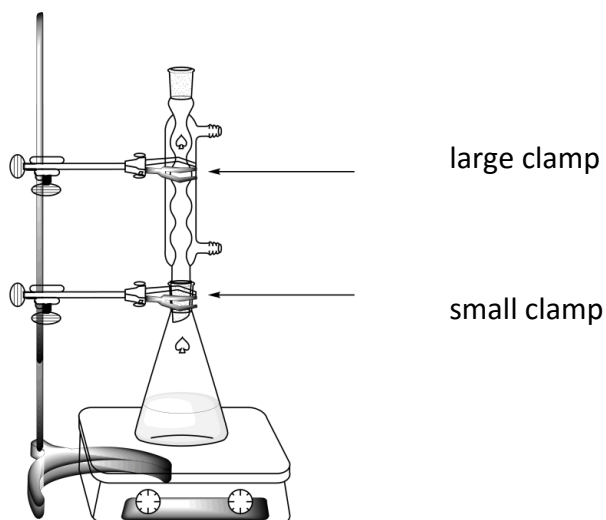

Figure 1. Setup for heating the reaction mixture under reflux
- To assemble the reflux setup, **loosen** (*gowşatmak*) the large clamp, **fit** the reflux condenser into the ground-glass joint of the Erlenmeyer, and **re-tighten** (*täzeden berkit*) the large clamp (see Figure 1). **Raise** your HELP card. A lab assistant will come to turn on and set the hotplate as well as the water. (*HELP kartyny galdyryp sowadyjynyň suwuny we temperaturany sazlamak üçin lab kömekçiden ýardam soraň*)
- For safety reasons, **use** the same setup as for the reflux (see Figure 1) to **recrystallize** the crude (*işlenmedik*) product in the 50-mL Erlenmeyer flask. **Raise** your HELP card. A lab assistant will come to turn on the water and set the hotplate. **Add** the appropriate (*ýeterlik*) amount of water/ethanol mixture (step II.1) through (*içinden*) the top of the condenser.